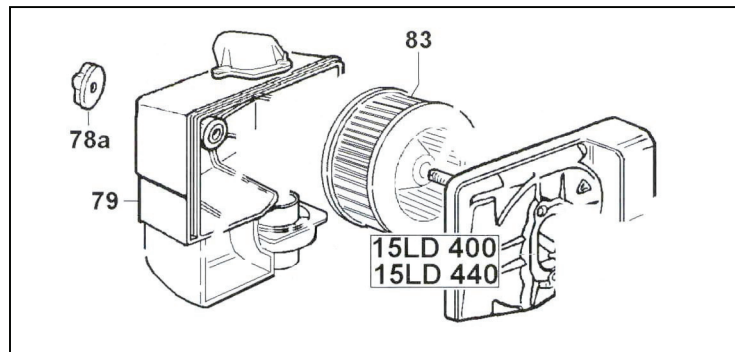

Figure 19
8.5.5 Dry Air Filter Cartridge (figure 19, #83)
The dry air filter (figure 19, #83) consists of a primary filter.
1. Loosen the filter cover knob (figure 19, #78a) to loosen the filter housing cover (figure 19, #79).
2. Remove the filter housing covering (figure 19, #79).
3. Remove the dry air filter (figure 19, #83).